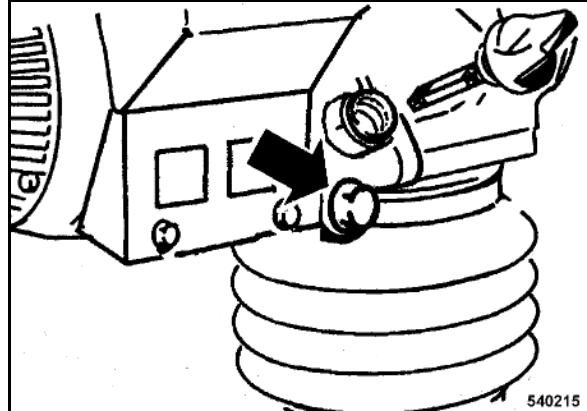

Fig. 38 □
- Unscrew the oil drain plug (Fig. 38), let the old oil run out and catch it.